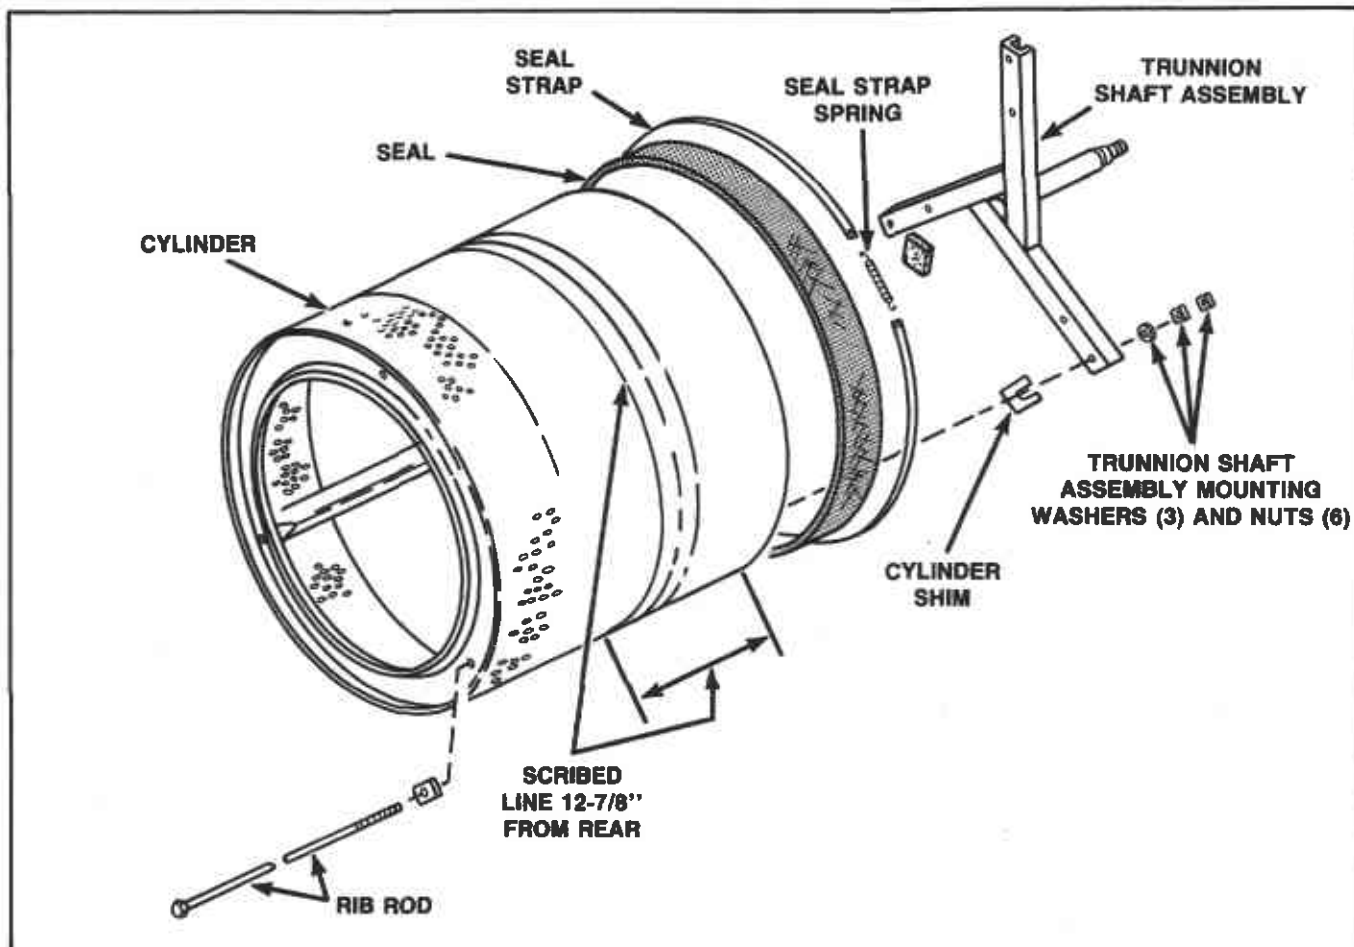

Figure 17
- c. Remove the three washers and six nuts holding trunnion shaft assembly to rear of cylinder, *Figure 17*.
## 20. CYLINDER SEAL (Figure 17)